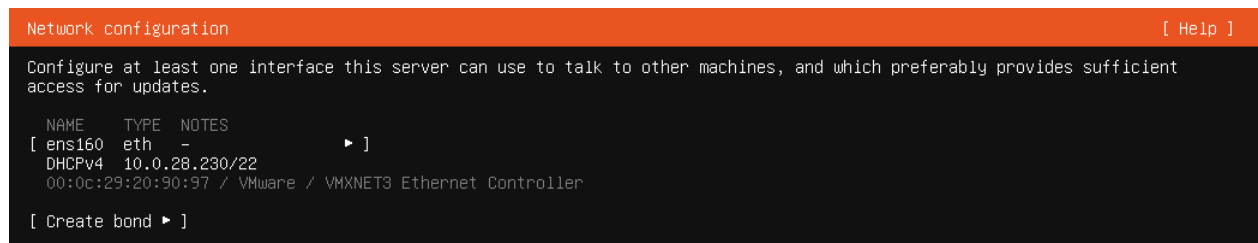

Figure 2.2: Network configuration
3. Configure your network devices as needed to reach the internet, see figure 2.2.